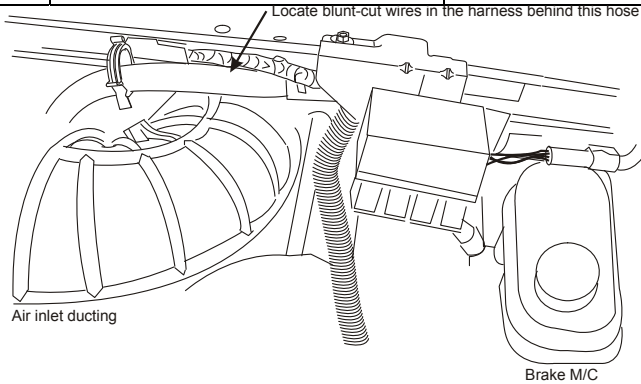

Figure 2
- E-Series – bundle is in the engine compartment in the wire harness on the firewall (Figure 2).